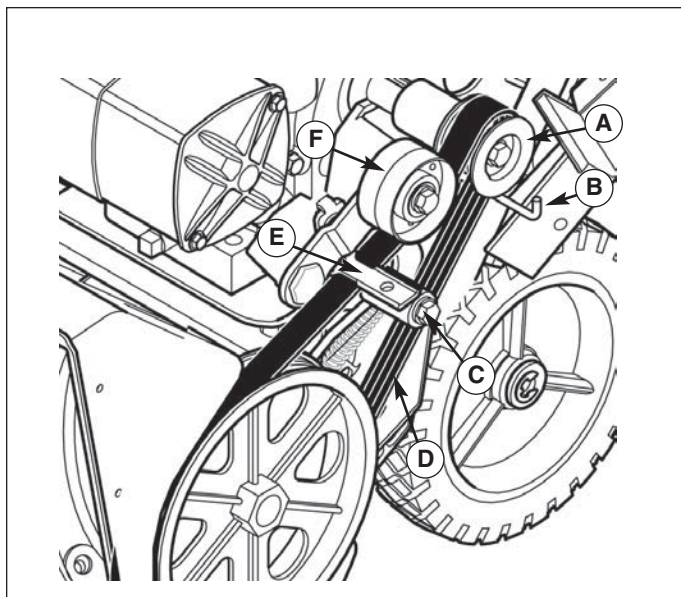
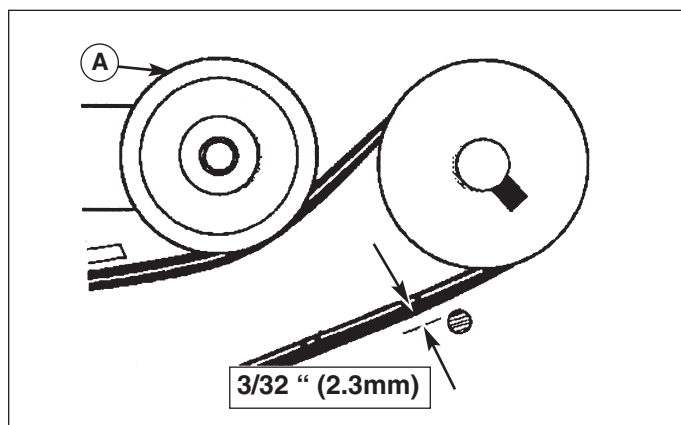

Figure 14. Drive Belt Installation
Figure 15. Belt Guide
2. Remove the drive belt (E, Figure 14) from the idler pulley (G).
3. Move the belt guide (B) away from the drive belt (E).
4. To reduce pressure on the drive belt (E), move the idler pulley (G) away from the belt. Remove the drive belt (E) from between the brake pad (F) and the brake roller (D).
5. Remove the old drive belt (E).
6. To install the new drive belt (E), reverse the above steps.
7. Make sure the drive belt (E) is seated properly on the pulleys.
8. Set the belt guide to 3/32” clearance as shown in Figure 15.